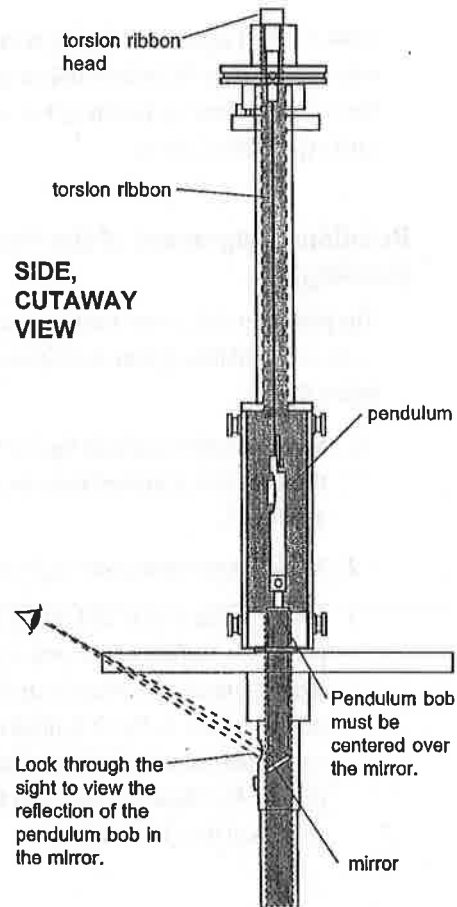

Figure 5
2. Adjust the feet of the base until the pendulum is centered in the leveling sight (Figure 5). (The base of the pendulum will appear as a dark circle surrounded by a ring of light).